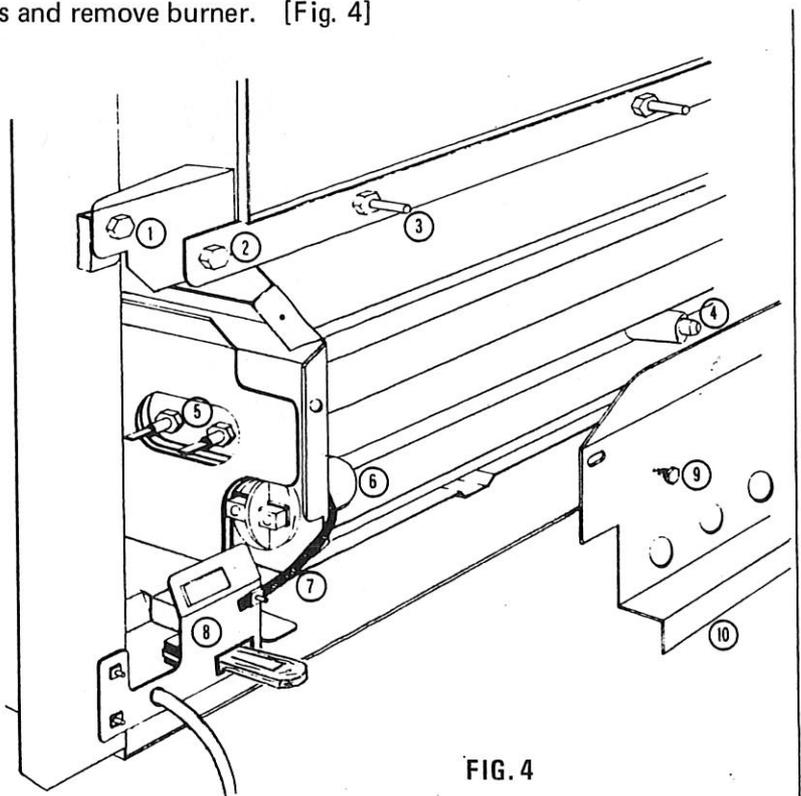

FIG. 4
4. Undo two screws and remove burner heat shield. [Fig. 4]
5. Loosen clamp screw and slide thermal switch out of clamp and clear of burner. [Fig. 4]
7. Undo nut and remove earth braid. [Fig. 4]
9. Remove burner fixing bolts and remove burner. [Fig. 4]
- ① Heat exchanger assembly fixing bolt (2 off)
- ② Burner assembly fixing bolt (2 off)
- ③ Door assembly fixing stud (6 off)
- ④ Oil input union
- ⑤ Ignition element
- ⑥ Thermal ('Otter') switch
- ⑦ Monel earth braid – to burner assembly
- ⑧ Terminal bracket assembly
- ⑨ Burner heat shield fixing screw (2 off)
- ⑩ Burner heat shield